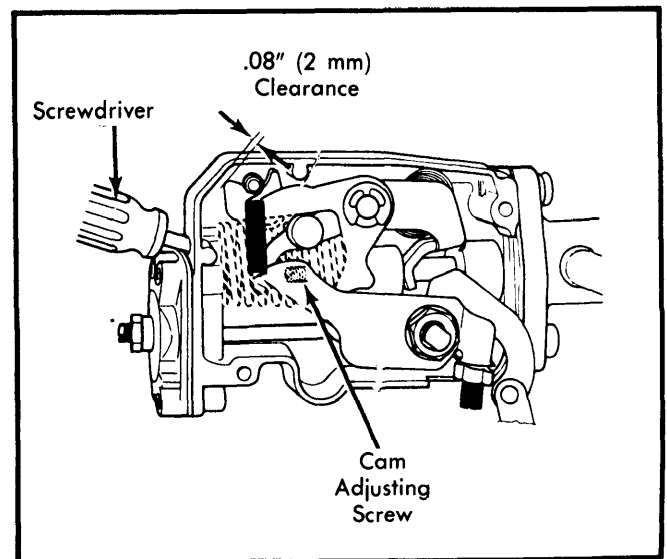
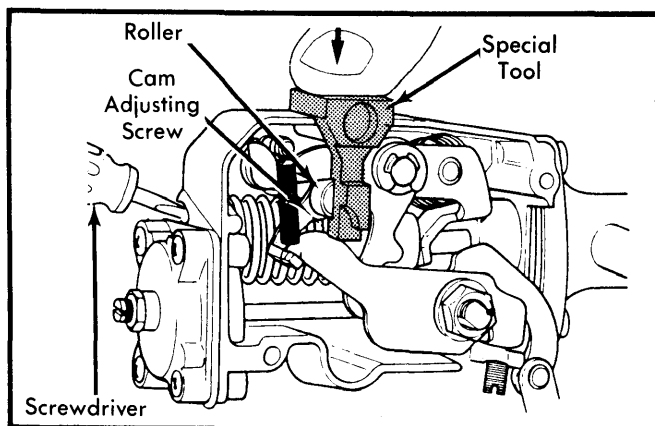

Fig. 3 Adjusting Choke Pivoting Roller Position
Fig. 5 Adjusting Choke Plate Opening Position
1) Adjust pivoting roller position by turning adjusting screw to obtain a clearance of .08" (2 mm) between intermediate lever and choke housing. See Fig. 3. Install special tool in reverse position. [See Fig. 5. Turn cam adjusting screw until the roller engages in notch of special tool.